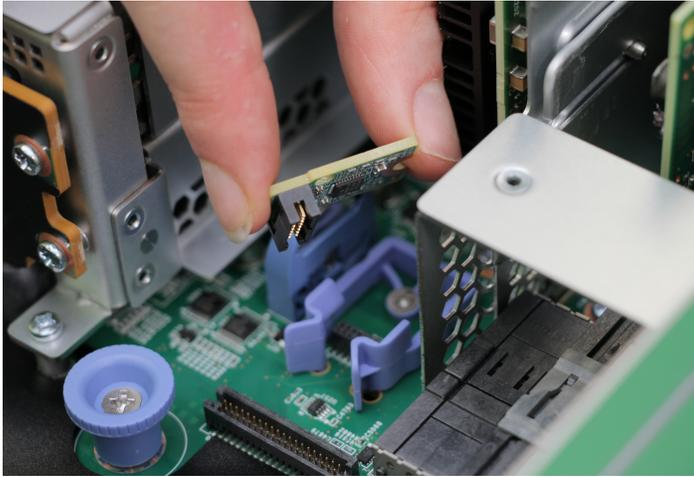

Figure 100. Removing the TPM
10. Insert your finger tip between the latches and hold the TPM between your thumb and finger, as shown in Figure 100 on page 159.